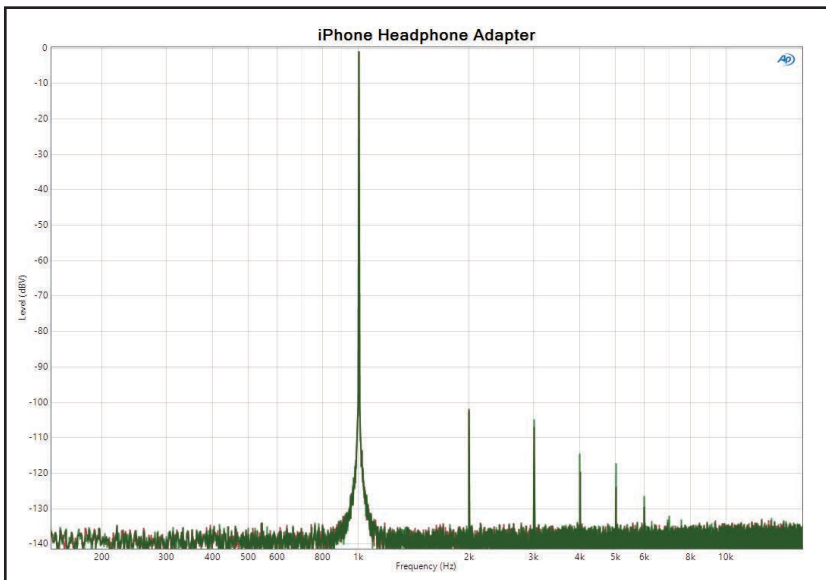
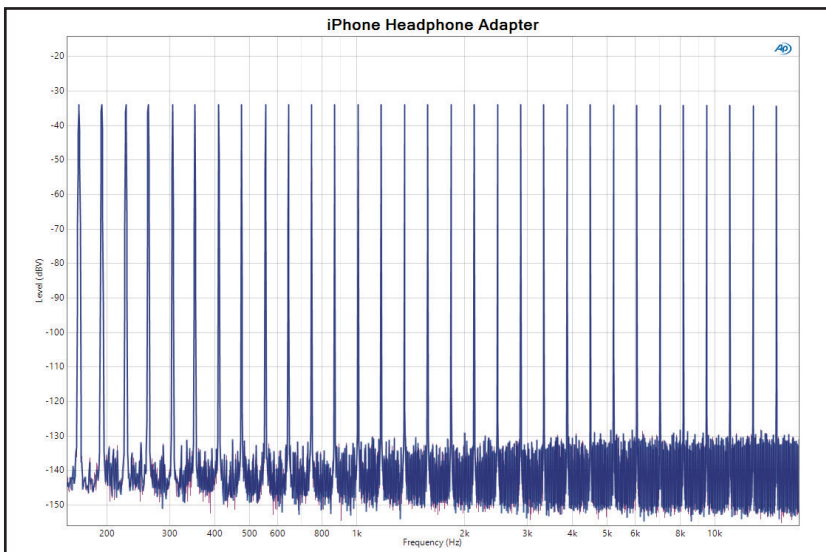

Figure 3: Playing back a WAV file of a generated sine wave through the iPhone's headphone adapter results in a very clean and low noise signal spectrum.
Figure 4: Using the same setup as shown in Figure 3, a generated multitoned WAV file playback shows an excellent spectrum.
**Figure 3** and **Figure 4** show the spectra of a 1 kHz sine wave and a multitone signal, respectively. Although not the subject of this review, it's clear that the Lightning-to-headphone DAC and amplifier are remarkably good, especially considering the under \$10 price tag. This is making me rethink the need for anything fancier for music playback in my home audio system!